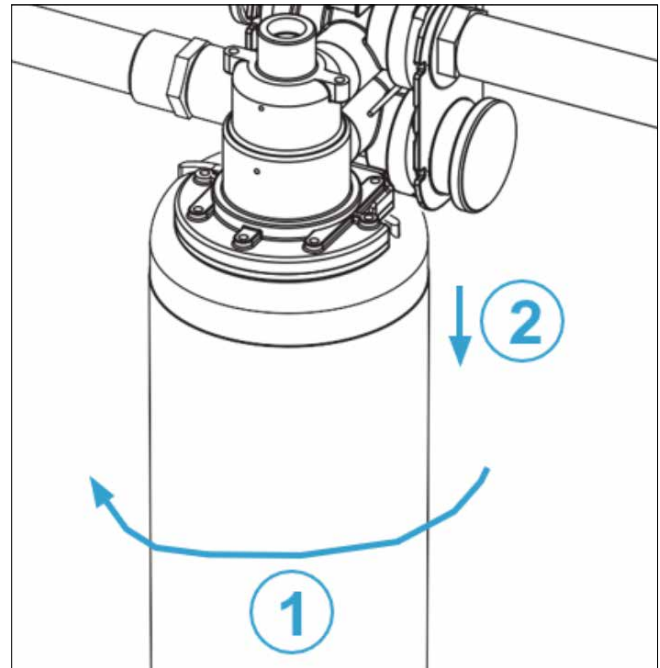

Figure 5. REMOVING CARTRIDGE
1. Holding the cartridge with both hands, swiftly rotate the cartridge quarter turn to the left until disengaged. The inlet water will automatically shut off (Figure 5).